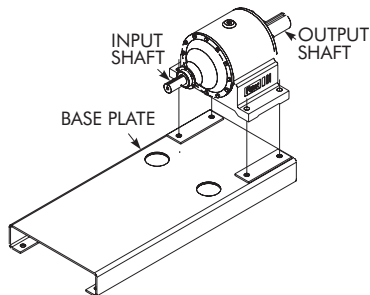

Figure 1A — Aligning Reducer Mounting Holes to Baseplate
1. Align the reducer mounting holes to the mounting holes in the baseplate so that the output shaft extends over the baseplate. Reference Figure 1A.